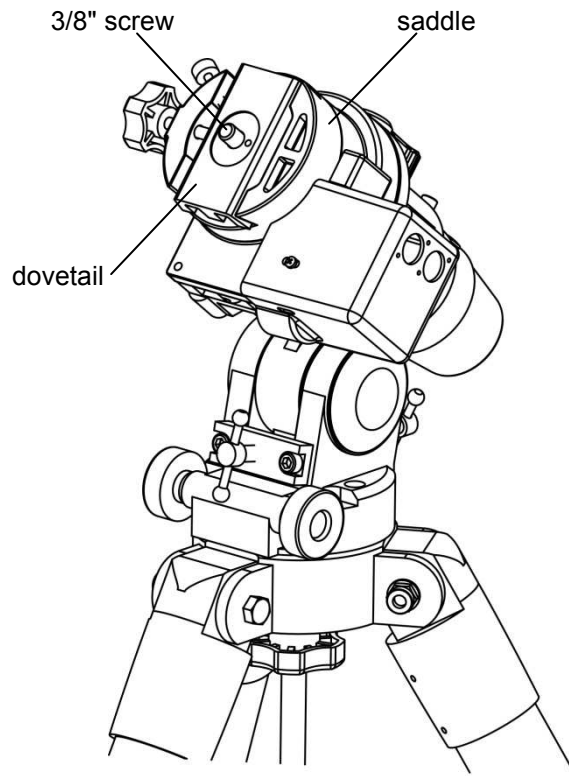

Fig 13
1.8 Installing optional accessories to turn the EQM-35 PRO into the EQM-35 PRO super light photographic traveling version (fig 13)